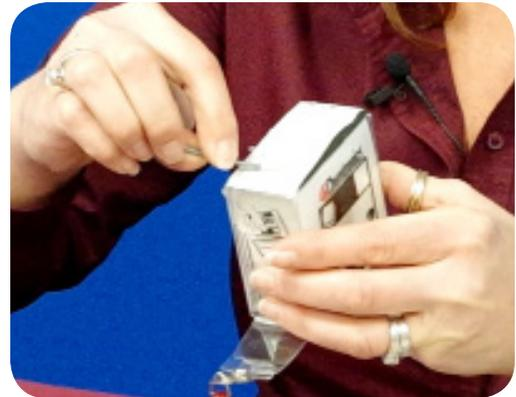

Figure 4
- **CLEAN THE FERRULE**...Lightly moisten the fiber optic swab (2.5mm/38542F or 1.25mm/38040) by spotting a small amount (about 1") of Electro-Wash PX or Electro-Wash MX pen onto the QBE-2. Hold the swab, 1 side down to the wetted area and hold for a count of 1-2-3-4-5. **Figure 4**